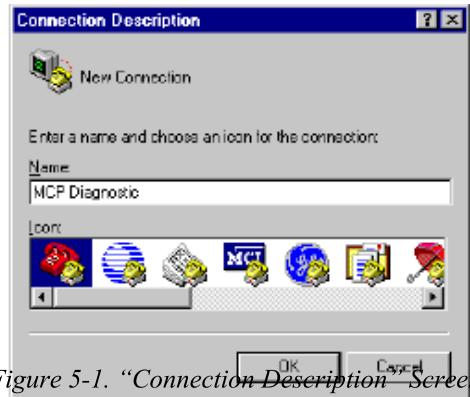

Figure 5-1. “Connection Description” Screen
1. Go to Start => Programs => Accessories => Hyperterminal => HyperTerminal. The Hyperterminal logo displays, followed by the “Connection Description” screen (Figure 5-1).